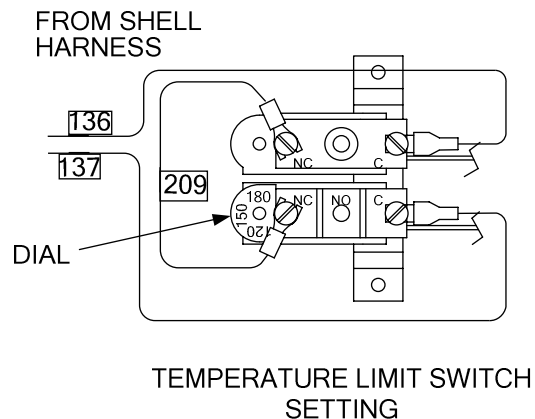

Figure 6.3
2. Lower the adjustable temperature limit switch setting to match the outlet water temperature. (See Fig. 6.3).